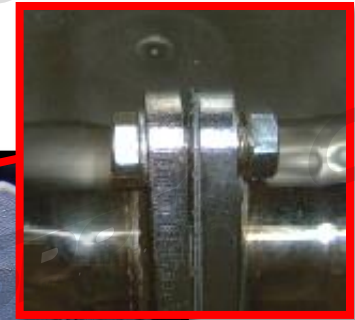

Figure 4c
c) Attach the mid-pipe section to the axle-back section using the supplied gasket and hardware. Do not tighten at this time (Figure 4c).